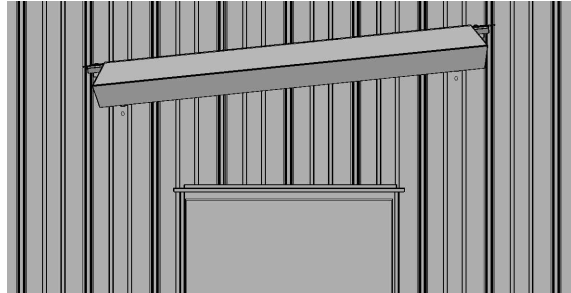

FIGURE 15
3. Apply another strip of Tape Sealant on the outer most major rib of the roof sheet. Place the Rake Trim in place as shown in **Figure 15**.